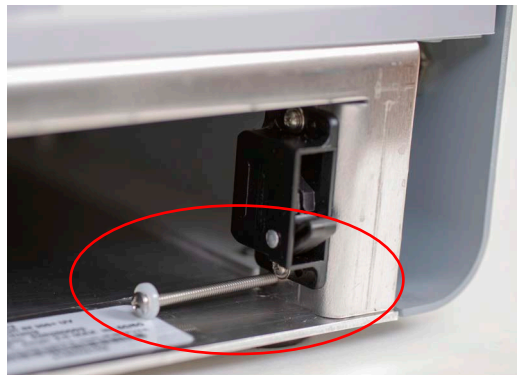

Figure 2-2 Location of screw storage
3. Store the screw by screwing it into the screw storage. (Figure 2-2).